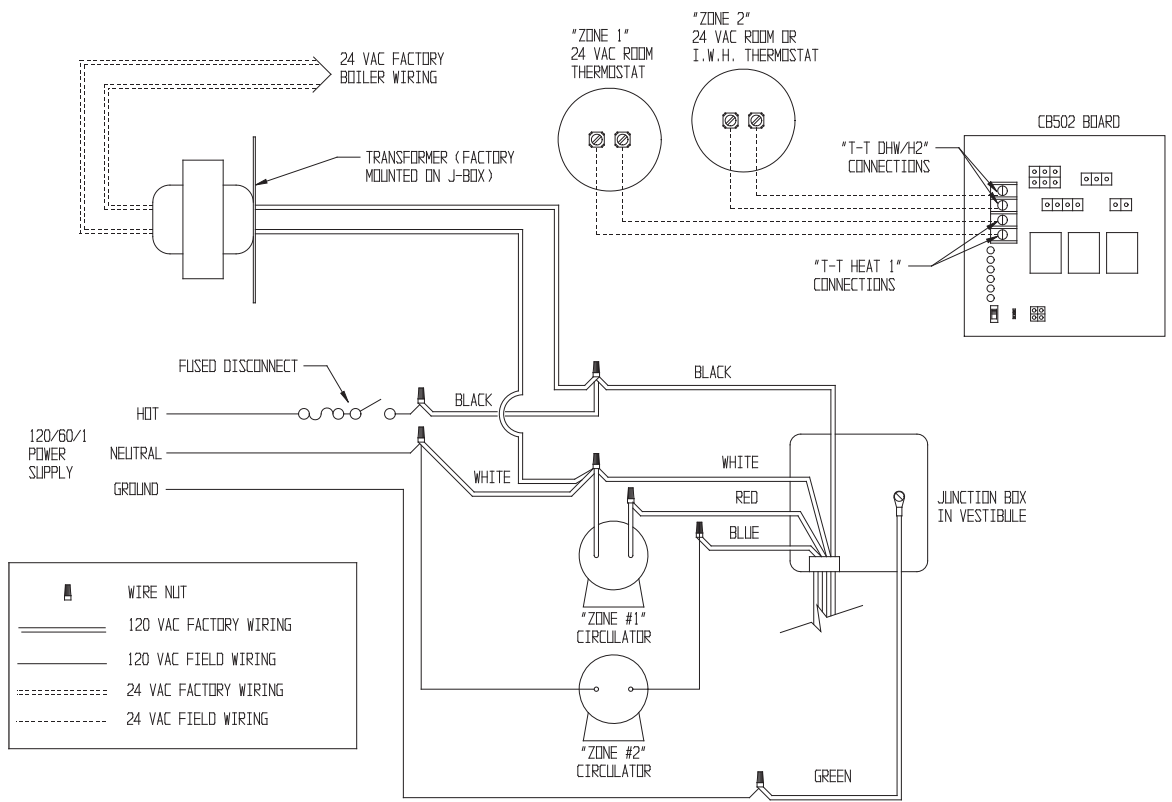

FIGURE 33: CB502 CONTROL SYSTEM - FIELD WIRING FOR TWO CIRCULATOR ZONES
- 1) Two Circulator Zones – Figure 33 shows wiring for two circulator zones. The second zone may be either an indirect water heater or a heating zone. No additional electrical controls are required to operate two circulator zones with a standard CWD boiler.